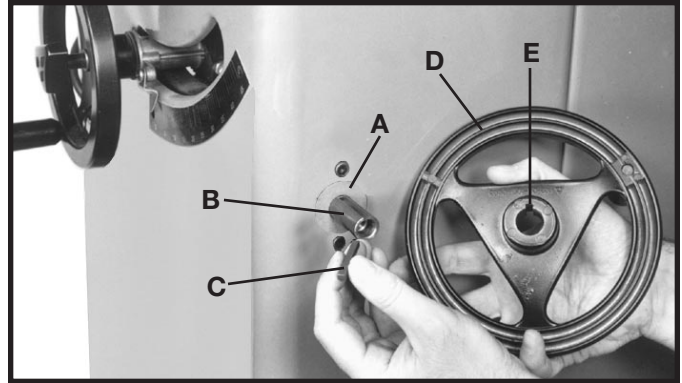

Fig. 3
1. Install fiber washer (A) Fig. 3, on the blade tilting handwheel shaft (B). Install key (C), into shaft keyway.
2. Place handwheel (D) on shaft (B) Fig. 3. Make sure the groove (E), in the handwheel lines up with the key (C).